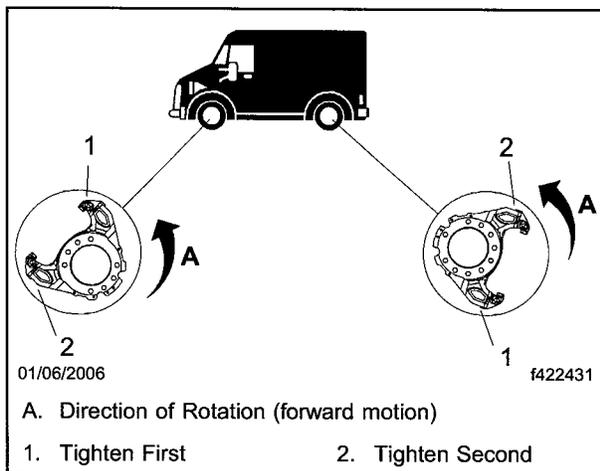
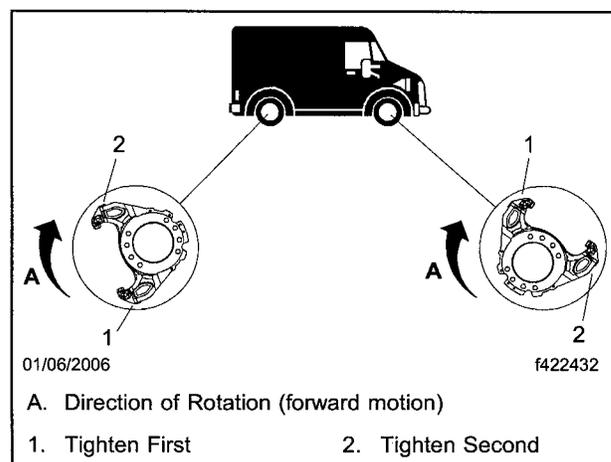

Fig. 10, Tightening Sequence for Caliper Mounting Bolts, Left Side
Fig. 11, Tightening Sequence for Caliper Mounting Bolts, Right Side
**IMPORTANT:** Always tighten caliper guide pin bolts in the proper sequence. Do not overtighten caliper guide pin bolts. Increased brake drag may result from incorrect tightening. See **Fig. 10** and **Fig. 11** before tightening either the upper or lower bolt.
22. Hold the caliper in the closed position with the caliper upper guide pin boss hole aligned with the threaded hole in the upper guide pin head. Hand-thread the upper guide pin bolt. Then tighten the upper and lower guide pin bolts 93 to 107 lbf-ft (126 to 145 N-m) in the order shown in **Fig. 10** and **Fig. 11**.